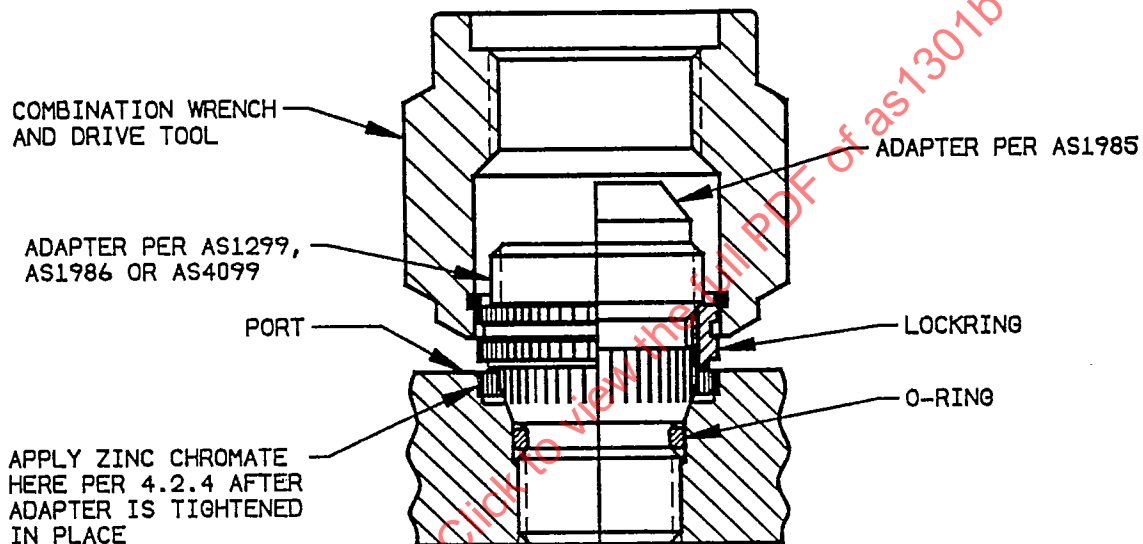

FIGURE 3 - Torquing Adapter Assembly
- 4.2.3 Using the applicable combination wrench and drive tool in Table 3, engage the serrations of the tool with the external serrations of the adapter locking per Figure 3. Place a torque wrench of the proper size over the hex of the wrench and apply a torque equal to the minimum value specified in Table 3. Note the relationship of the locking serrations with respect to the prebroached serrations in the port. If they match, proceed to 4.2.4. If the locking serrations do not match the prebroached serrations in the port, continue to slowly torque the adapter toward the maximum value allowed in Table 3 until the serrations match. This will normally take between 3° and 8° of turning, the maximum value need not be reached if the serrations align themselves prior to that value. Do not exceed maximum torque values.